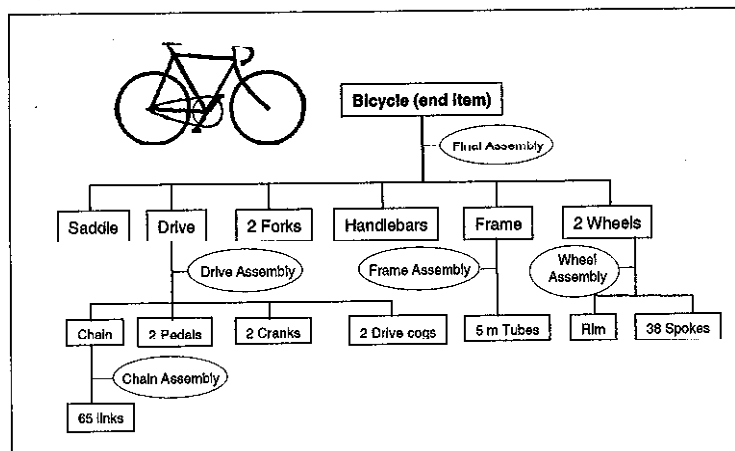

Figure 1, Diagrammatic production bill of material
A production bill of material (BOM) is a description of a product's structure. It is a list of parts required to manufacture an item, together with details such as the first operation in which the item is used) and how many of the component items are required. Figure 1 shows a production bill of material for a simplified bicycle (multilevel structure).
BOM contains a functional procedure that allows you to define the product structure of a manufactured item (see Figure 1). In addition to the main procedure, the following optional parallel procedures is related to the procedure to make a production bill of material: define reference designator locations.
When you create a bill of material, you start by inserting the final product (the Bicycle in Figure 1).
For example, in Figure 1, after you have added the saddle, you must then add the drive (and then the forks, and so on). After you have added all the components, you can go to the next step.
- 2 Select a subassembly that is not a purchased part (for example, the drive in Figure 1).